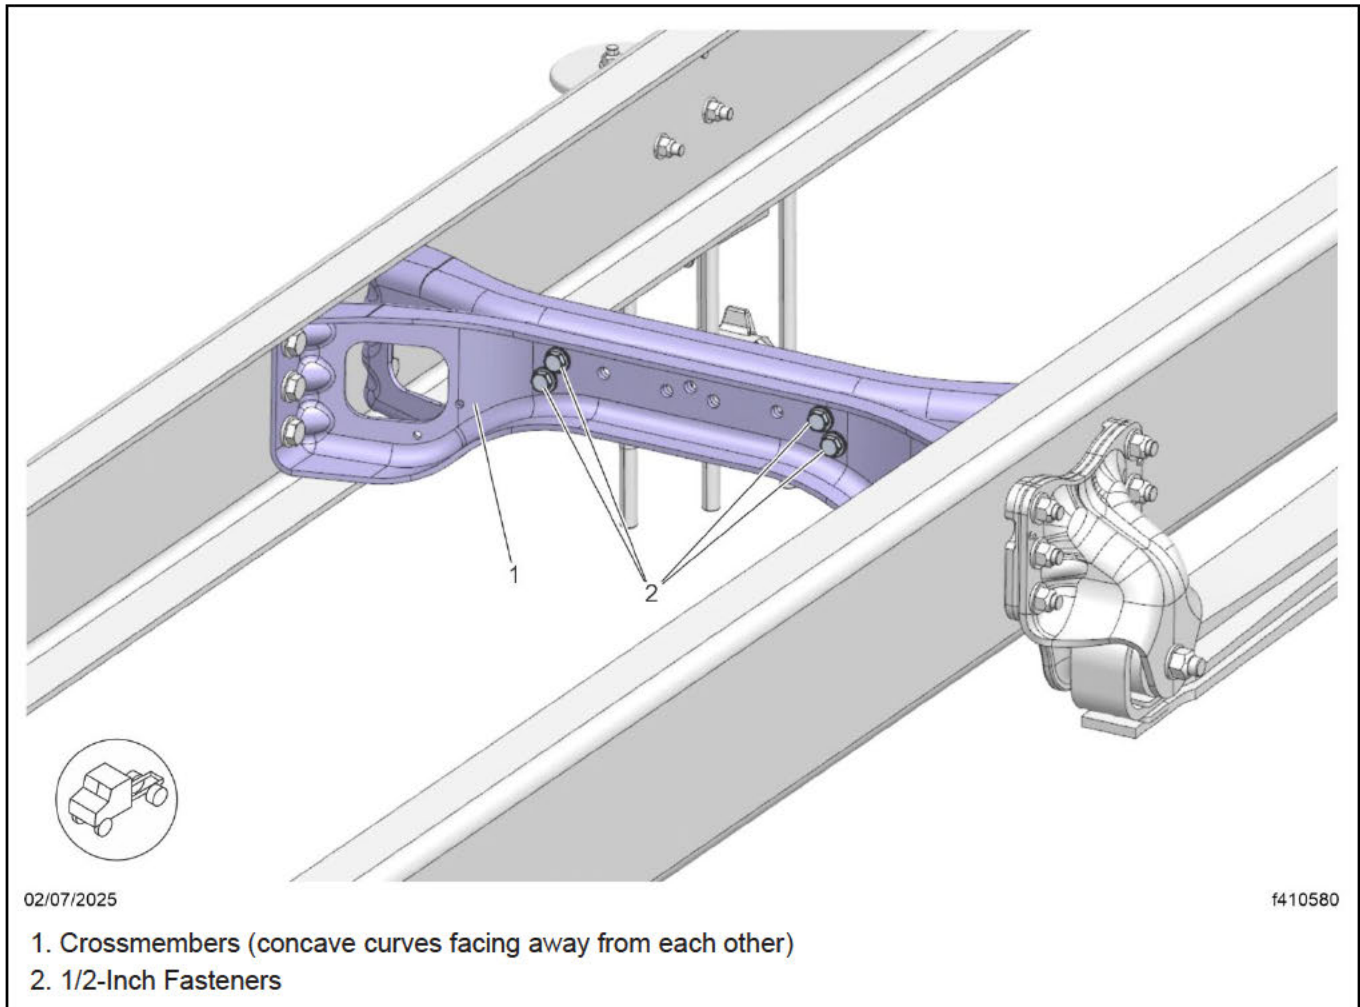

Fig. 2, Installing the Crossmembers
9. Install the new crossmembers (15-17882-001) in the rail, with the concave curves facing away from each other, as shown in Fig. 2.
10. Install and finger-tighten the four 1/2-inch fasteners. The crossmembers share the fasteners with the spring hangers, like the originally installed crossmembers. See Fig. 2.